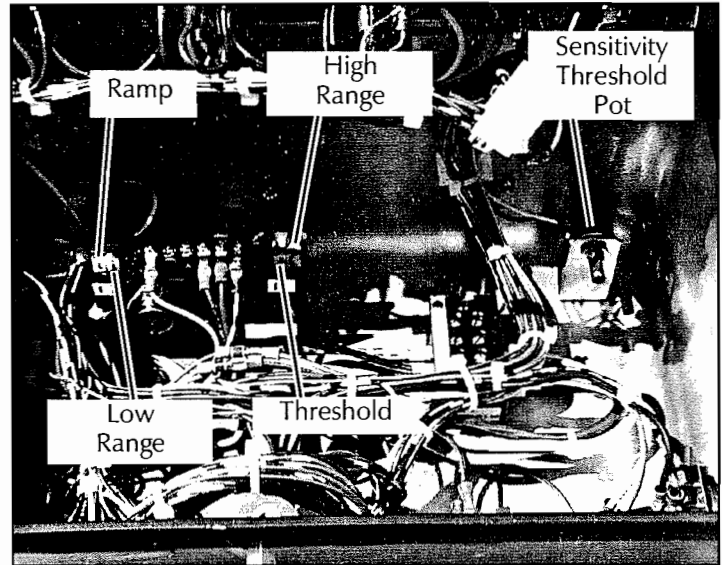

Figure 3-6: Upper Control Box
PROPORTIONAL CONTROL ADJUSTMENT (Figure 3-6)
1. Adjust sensitivity threshold pot (located in upper control box) to obtain an equal threshold between forward and reverse directions (Figure 3-6).